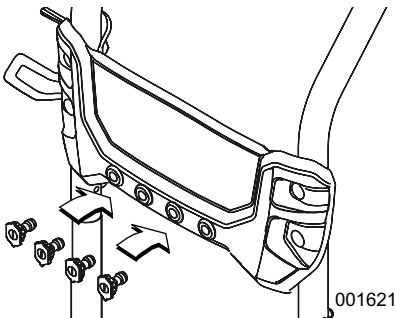

Figure 2-4. Insert Nozzles
- See Figure 2-4. Insert and snap nozzles into spaces provided in handle.